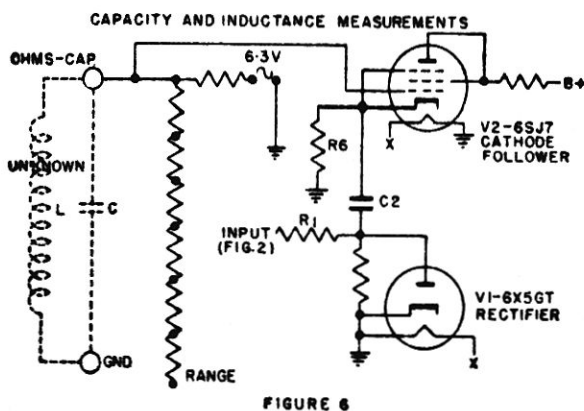

FIGURE 6
3.7 CAPACITY AND INDUCTANCE MEASUREMENT—Fig. 6